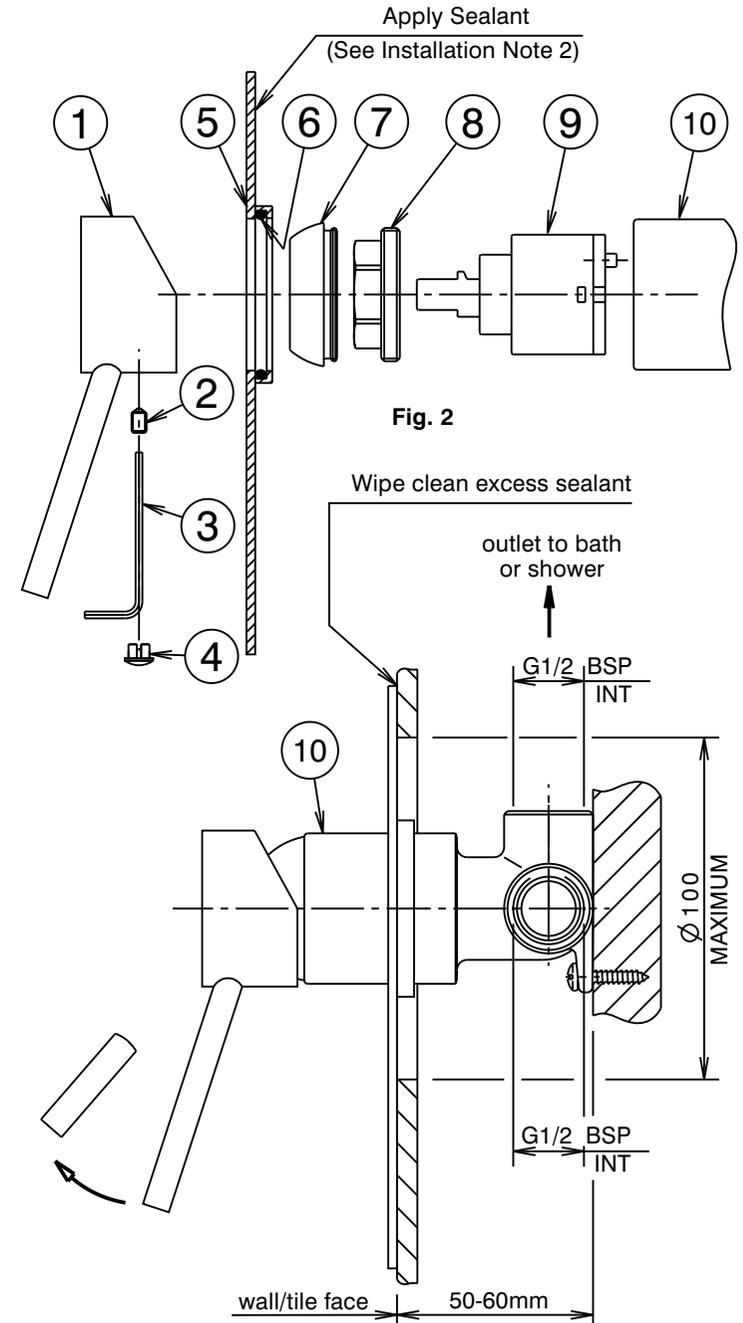

Fig. 1
Installation (Fig. 1 & 2)
- * Mixer body (10) must be installed square to wall/tile face, to ensure cover plate (5) sits flush.
- 2) Apply a suitable clear sealant to the back edge of the cover plate (5), leaving an unsealed section at the bottom for drainage. Carefully slide the cover plate (5) onto the mixer body (10), ensuring that the 'O' Ring (6) remains in its groove. Push the cover plate firmly against the wall/tile face, making sure that the top edge is horizontal to align with the tile joints. Wipe clean any excess sealant from the chrome surfaces & the wall/tile face (See Fig. 1).
- 3) Fit handle (1) taking care that it is pushed fully onto cartridge stem, then tighten grub screw (2) using the 2.5mm allen key (3). Fit plug (4), taking care not to damage the decorative finish.